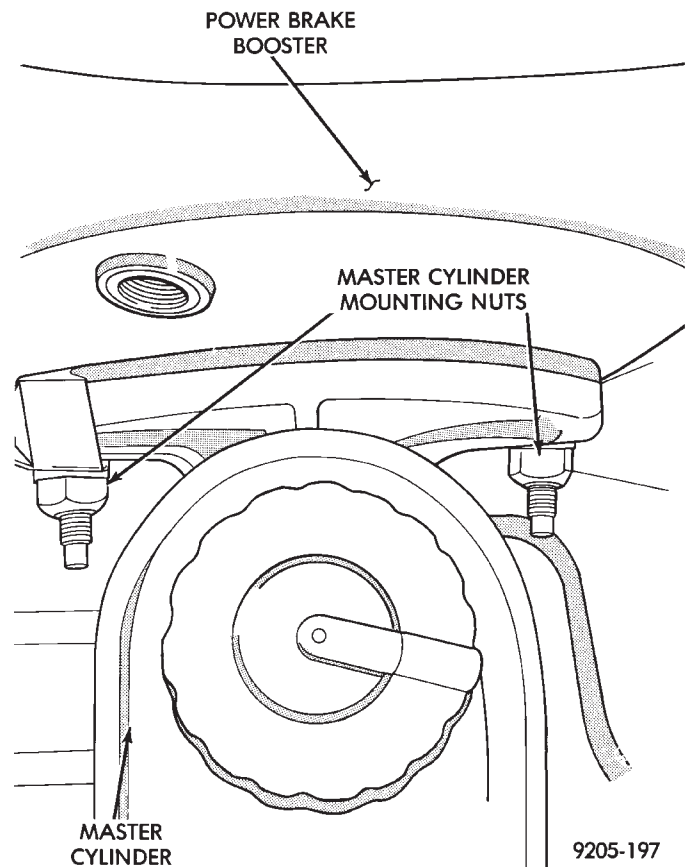
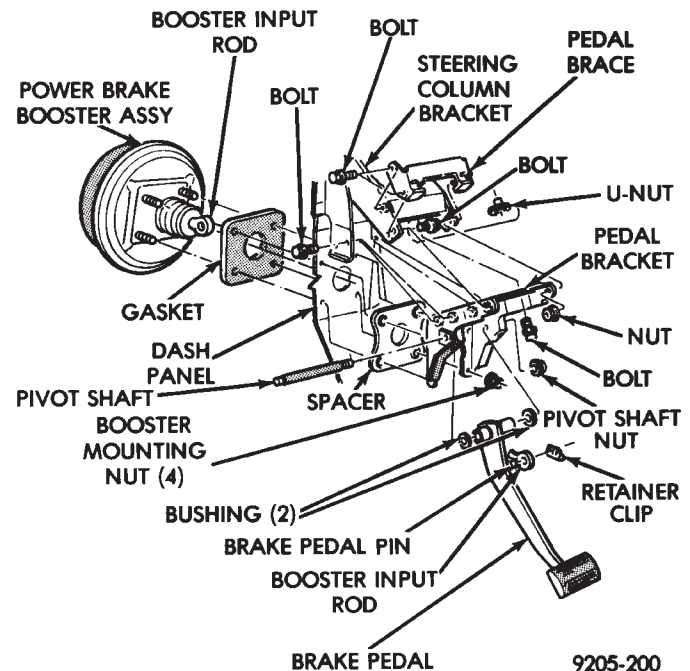

Fig. 6 Master Cylinder Mounting
Fig. 7 Power Brake Booster Mounting
(1) Remove the 2 nuts (Fig. 6) attaching master cylinder assembly to power brake unit.
(2) Carefully slide master cylinder off mounting studs with brake lines attached, and allow the assembly to rest against fender shield.
(4) From under instrument panel, position a small screwdriver between the center tang on the power brake booster input rod to brake pedal pin retaining clip.
(5) Rotate screwdriver enough to allow retainer clip center tang to pass over end of brake pedal pin and pull retainer clip off pin. **Discard retainer clip it is not to be reused, replace only with a new retainer clip.**
(6) Remove the four nuts that attach the power brake booster to the vehicle dash panel. Nuts are accessible from under the dash panel in the area of the steering column and pedal bracket (Fig. 7).
(7) Unfasten brackets on steel heater water line at dash panel and left frame rail. **On Manual Transmission vehicles**, unfasten clutch cable bracket at shock tower and move aside.
- (1) Position power brake booster onto dash panel.
- (2) Install and tighten the 4 power brake booster to dash panel mounting nuts (Fig. 7) to 29 N•m (250 in. lbs.) torque.
- (3) Install steel heater water line and clutch cable bracket, if so equipped.
- (4) Carefully position master cylinder on power brake unit.
(5) Install and tighten the 2 master cylinder to power booster mounting nuts (Fig. 6) to 29 N•m (250 in. lbs.) torque.
(6) Connect vacuum hose onto the check valve, located on the power brake unit.
(7) Using lubriplate, or equivalent, coat the bearing surface of pedal pin (Fig. 7).
(8) Connect power brake booster input rod to brake pedal pin and install a **NEW** retainer clip. **Use only a new retainer clip DO NOT USE the old clip.**
(9) Check stop light operation.